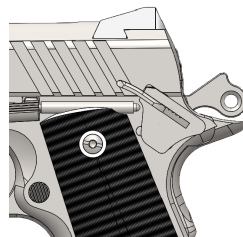

Figure 2
- When the hammer is in the cocked position, push the manual slide lock safety lever fully upward to put it in "ON" or "SAFE" position – Figure 2.